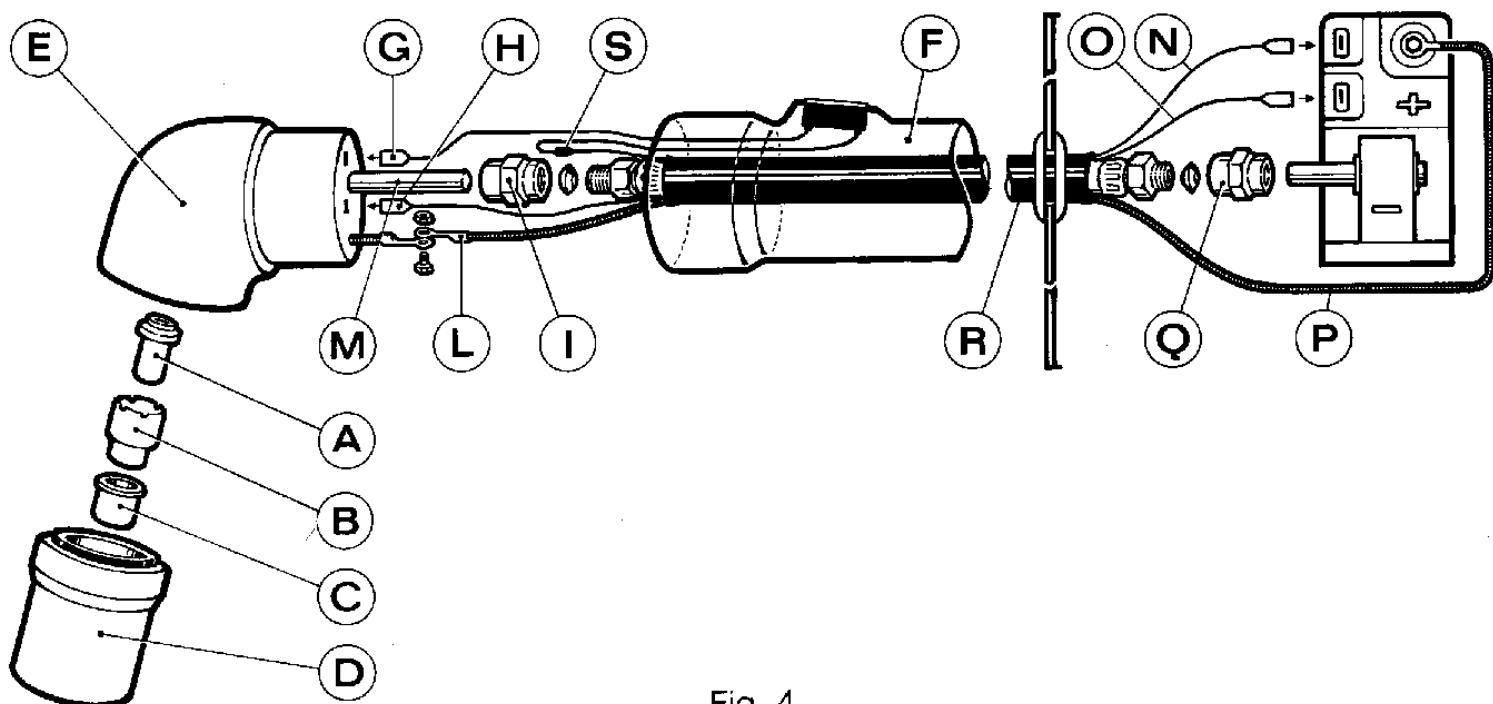

Fig. 4
1) **Substitution of consumable parts** (fig. 4).
2) **Substitution of torch body E** (fig. 4).
3) **Substitution of complete torch** (fig. 4).
4) **Substitution of cable R** (fig. 4).